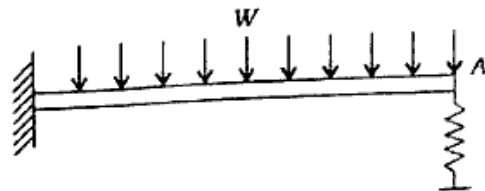

Fig. 3
- (b) A cantilever is supported at the free end by an elastic spring of spring constant k . Determine the reaction at A by energy method, when it is loaded uniformly distributed as shown in Fig. 3 : 8